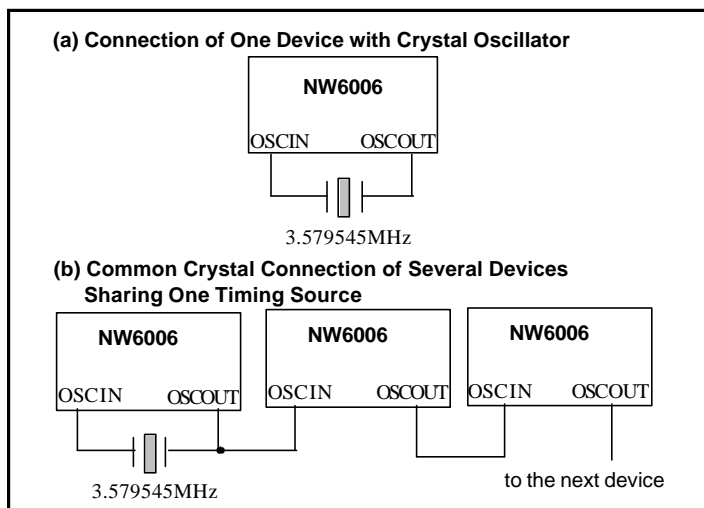

Figure 8. Application of Clock Driven Circuit
A 3.579545 MHz crystal oscillator or other external clock source is required for NW6005. The crystal can be directly connected between OSCIN and OSCOUT pins without any external component. If an external clock source is used, OSCIN pin should be driven by the clock source and OSCOUT pin is left floating or is used to drive other devices. Fig. 8 shows some applications.
- 2) By choosing  $t_{GA} = 15 \text{ ms}$ ,  $t_{ABS}$  will be 15-25 ms (refer to Fig. 8). Current wetting pulse and AC/DC load should be applied right after the  $\overline{\text{STD}}$  rising edge.